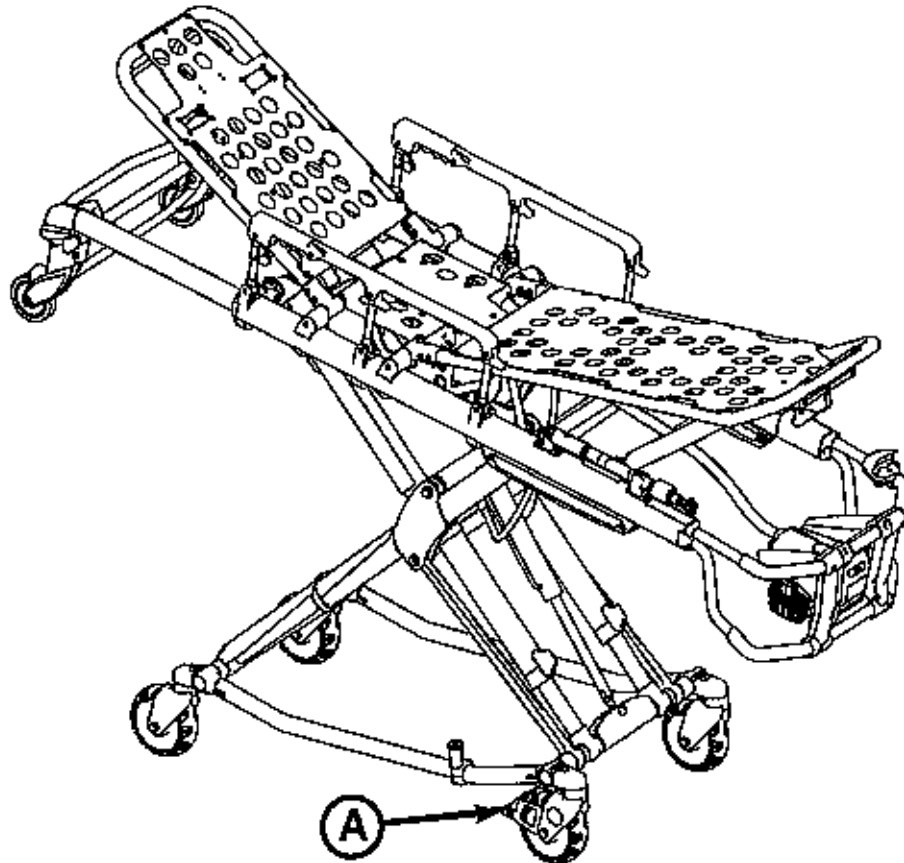

Figure 57
To activate the optional wheel locks, press fully down on the pedal (A) as shown in Figure 57 until it stops and is resting firmly against the surface of the wheel.